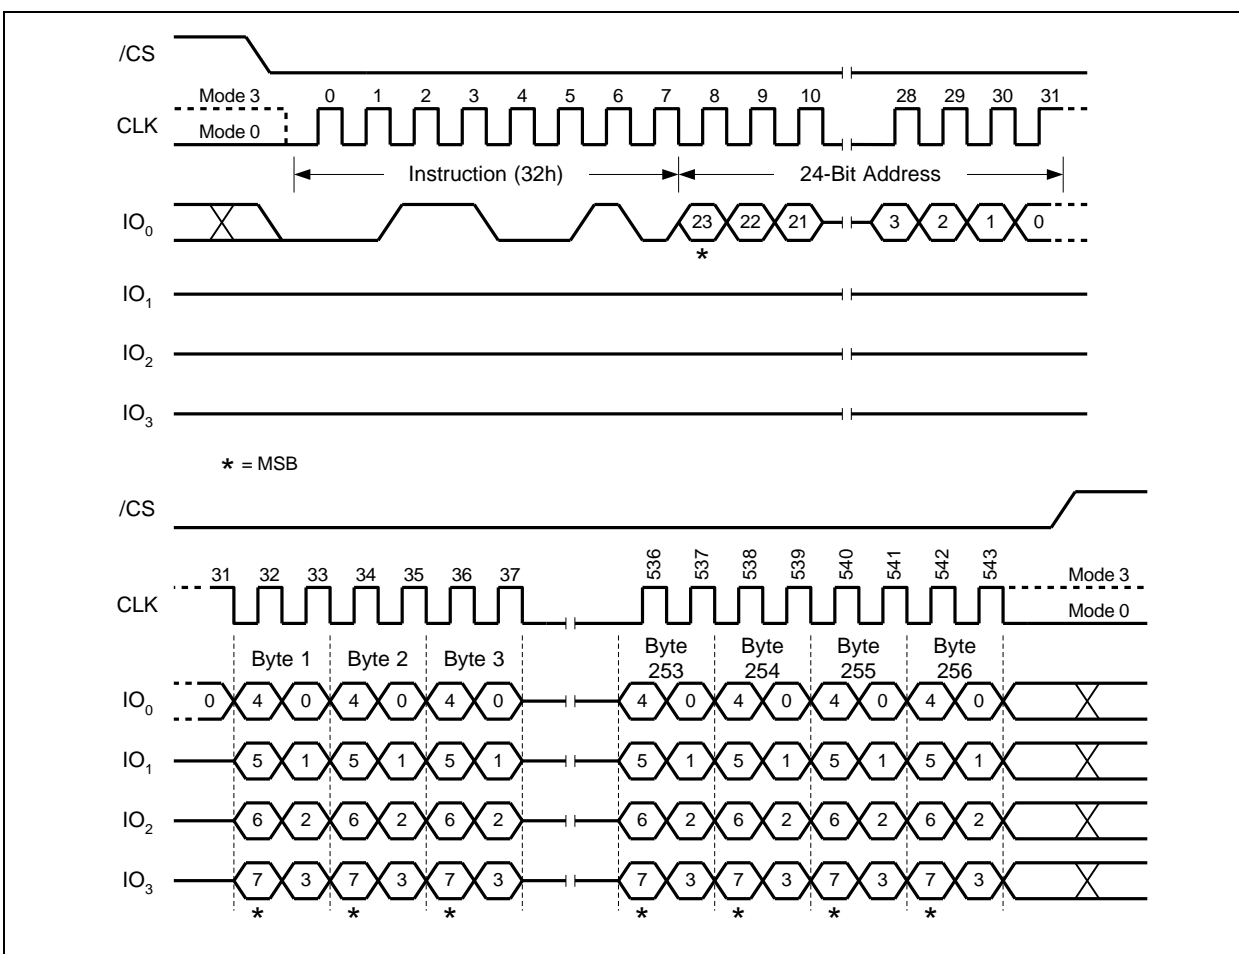

Figure 30. Quad Input Page Program Command (SPI Mode only)
To use Quad Page Program, the Quad Enable (QE) bit in Status Register-2 must be set to 1. A Write Enable command must be executed before the device will accept the Quad Page Program command (Status Register-1, WEL=1). The command is initiated by driving the /CS pin low then shifting the command code "32h" followed by a 24-bit address (A23-A0) and at least one data byte, into the IO pins. The /CS pin must be held low for the entire length of the command while data is being sent to the device. All other functions of Quad Page Program are identical to standard Page Program. The Quad Page Program command sequence is shown in Figure 30.